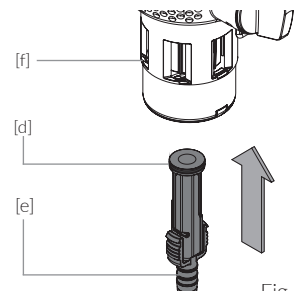

Fig. 8.3
- / Insert the hose nozzle (Fig. 8.3):